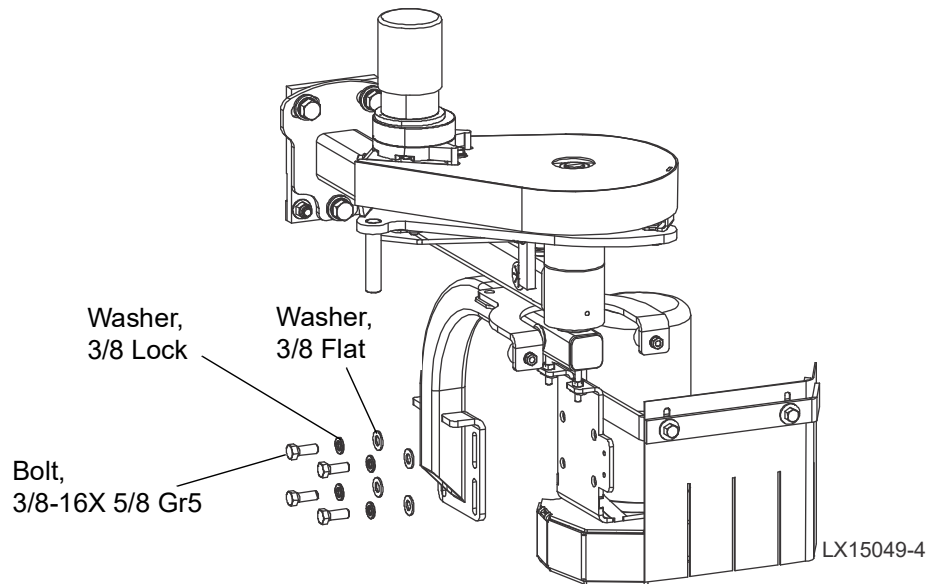

FIG. 1-4
1. Install the cutter head to the pivot arm mounting bracket. See Fig. 1-4.